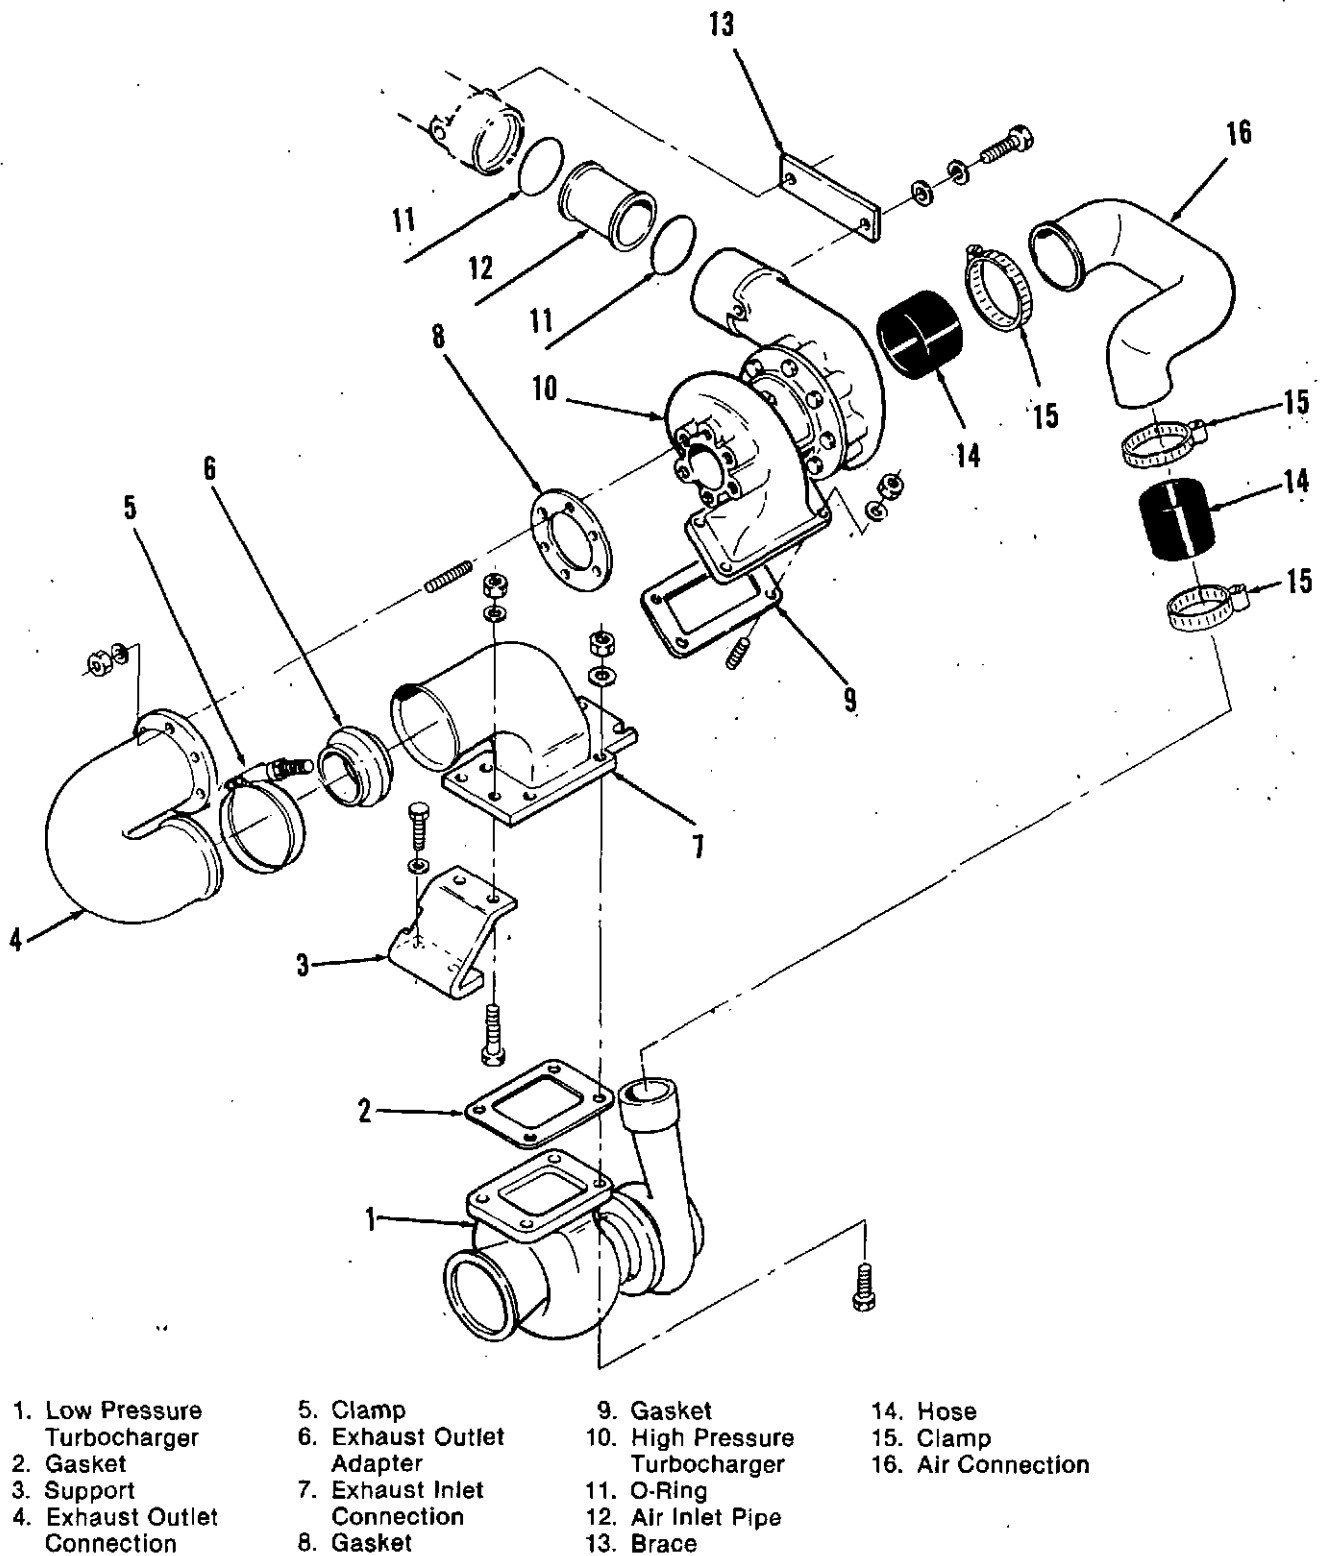

Fig. 14-84. Series Turbochargers — Exploded View
2. Install a new gasket (9, Fig. 14-84) for the H.P. Turbocharger (10) onto the exhaust manifold. The raised bead on the gasket must be toward the turbocharger.
3. Install the H.P. Turbocharger (10) onto the exhaust manifold. Tighten the nuts to 5 to 10 ft.-lbs. [6.8 to 13.5 N•m] torque.
4. Install the supports (3) onto the exhaust manifold. Tighten the nuts to 5 to 10 ft.-lbs. [6.8 to 13.5 N•m] torque.
6. Install a new gasket (8) and the exhaust outlet connection (4) onto the turbocharger. Install the gasket so that the bead is toward the turbocharger.
7. Install the adapter (6), clamp (5) and inlet connection (7) onto the outlet connection (4). Align the connection (7) with the supports (3) and install the capscrews, washers and nuts to fasten the connection onto the supports.
1. Install the L.P. Turbocharger (1, Fig. 14-84) and a new gasket (2) onto the exhaust connection (7). The bead on the gasket must be toward the turbocharger. Tighten the capscrews and nuts to 5 to 10 ft.-lbs. [6.8 to 13.5 N•m] torque.